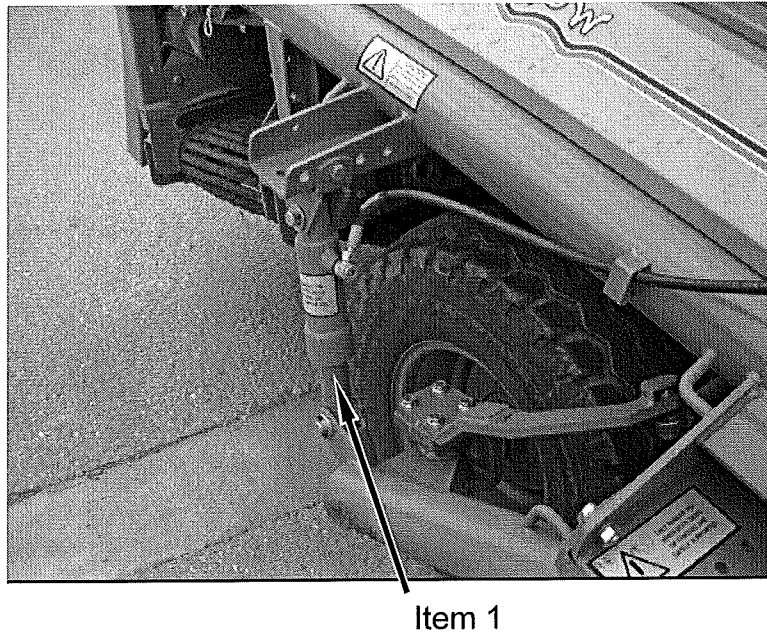

Fig 6.4
In addition to adjusting the axle assembly the axle support leg or level leg ram (fig 6.4 item 1) must be adjusted inline with the axle.
Remove the bottom pin in the axle support leg or level leg ram (fig 6.4 item 1)
Remove the two set studs and nuts holding the top mounting bracket of the axle support leg or level leg ram (fig 6.4 item 1), and position it inline with the new axle position and refit and tighten securely.
Refit the bottom pin in the axle support leg or level leg ram (fig 6.4 item 1)